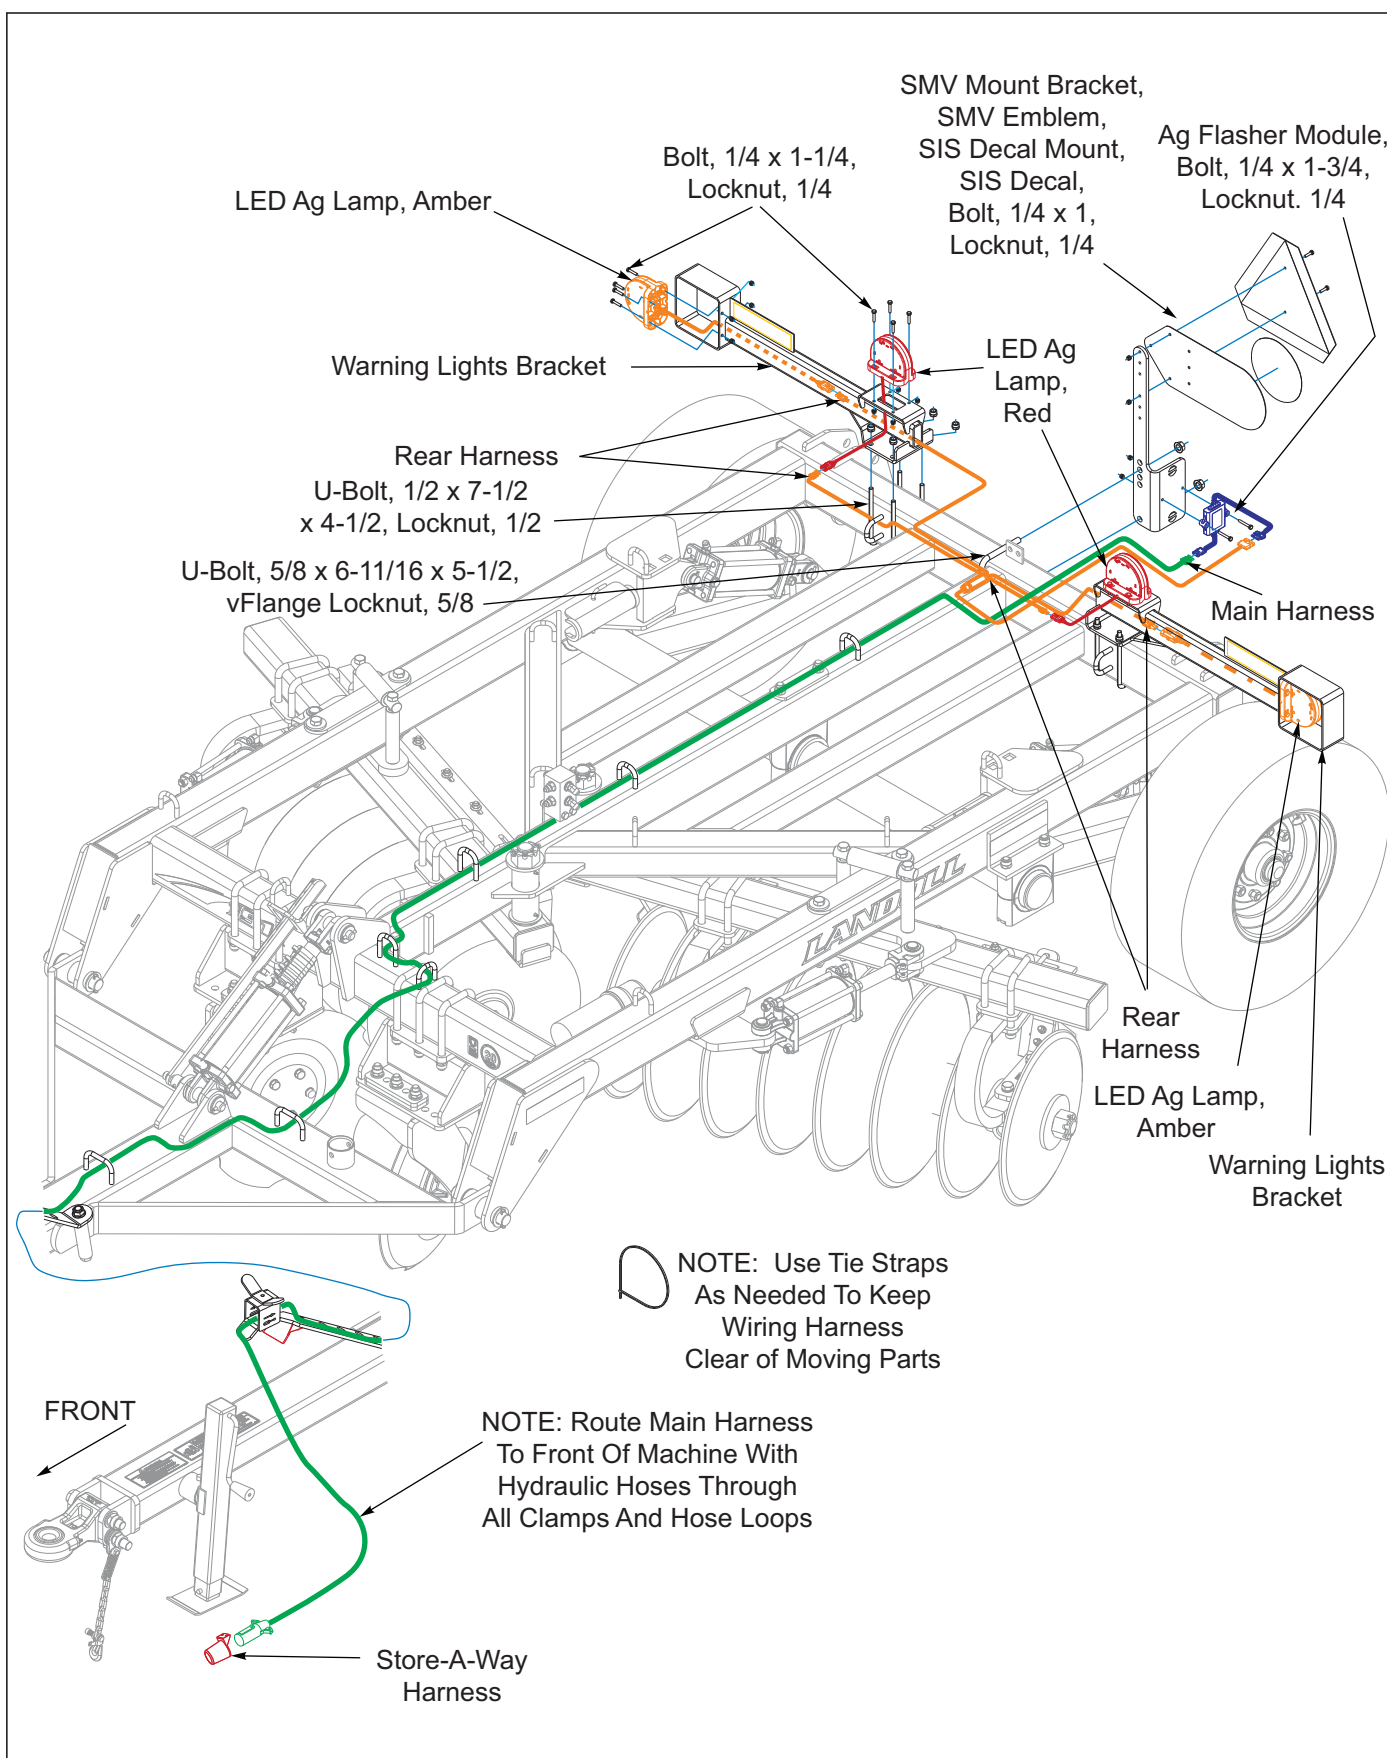

Figure 3-8: LED Light Installation
1. Attach the warning light brackets to the rear tube of center frame with 1/2 x 7-1/2 x 4-1/2 u-bolts and 1/2 lock nuts **See Figure 3-8**.
2. Attach amber and red LED lamps to warning light brackets using 1/4 x 1-1/4 hex head cap screws and 1/4 lock nuts **See Figure 3-8**.